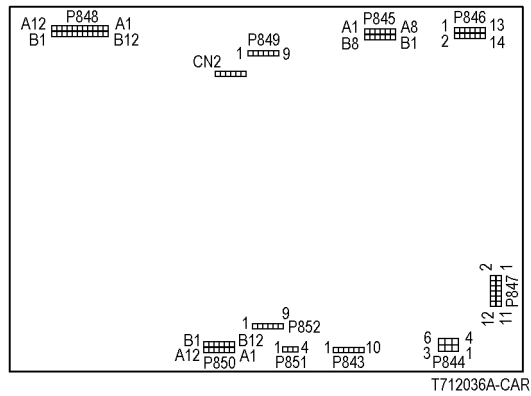

Figure 4 Finisher PWB
- If the problem persists, replace the Finisher PWB (PL 17.13) (Figure 4).